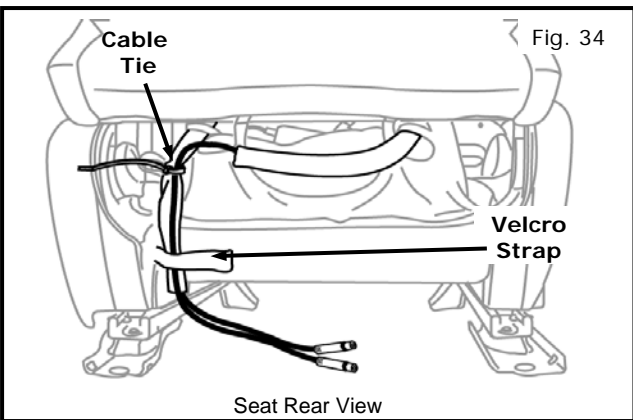

Fig. 34
20.14) Group two headrest cables to inboard side of vehicle by routing cable with black barrel connector toward cable with blue barrel connector. Secure cables to seat harness using one cable tie as shown. Figure 34
20.15) Continue routing two headrest cables down and under seat. Secure cables using existing seat bottom velcro strap. Figure 34